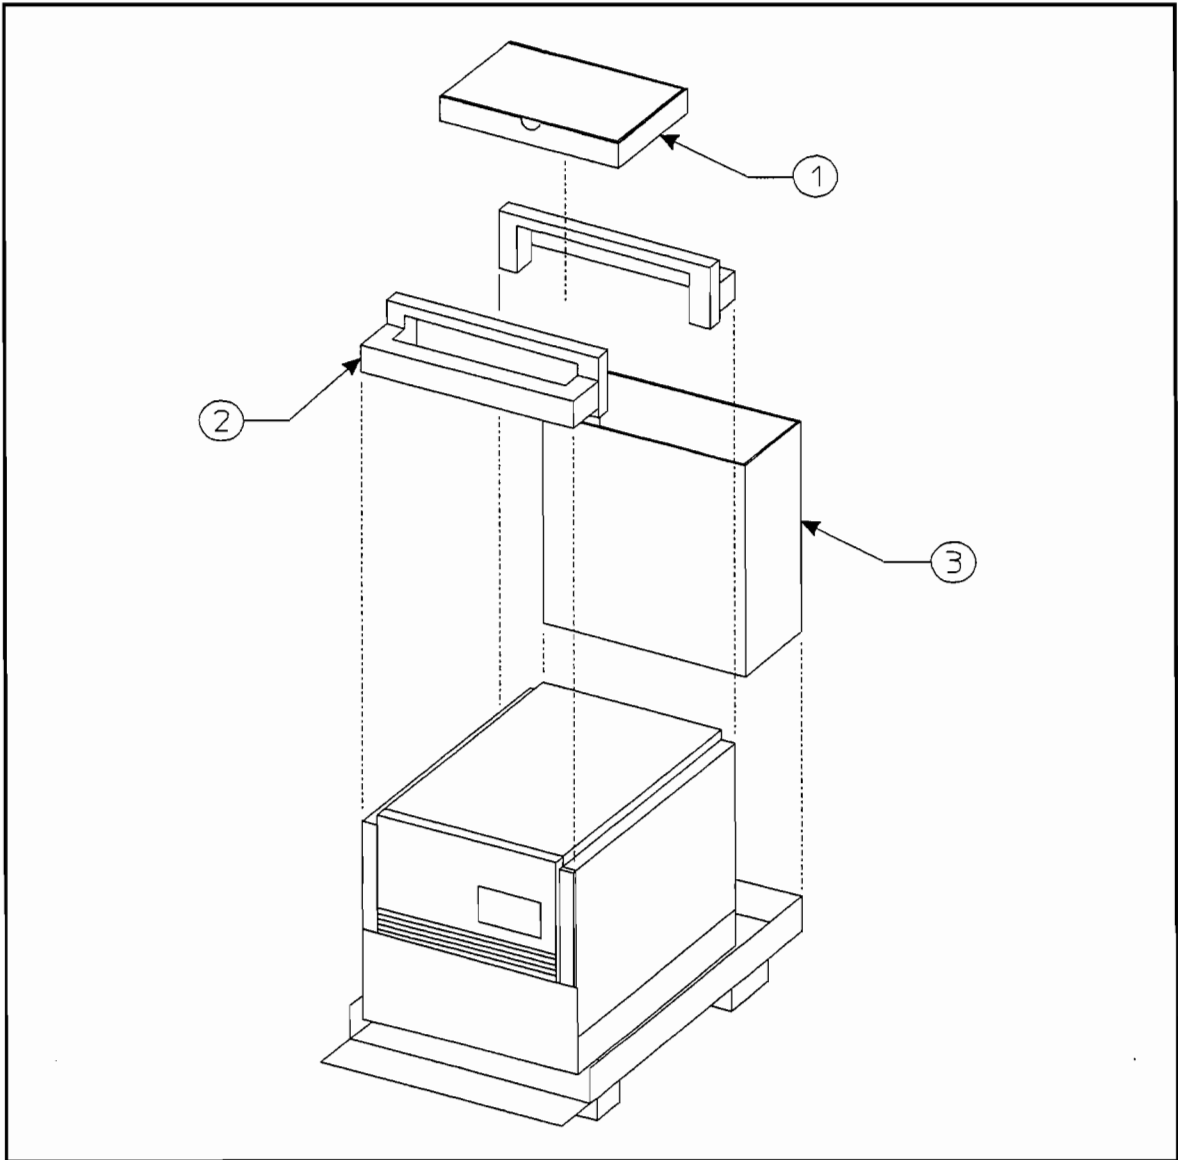

Figure 3-6. Unpacking the Accessories
5. Remove the small accessory box ①, shipping foam ②, and accessories from the large accessory box ③. Remove the large accessory box ③. See Figure 3-6.
6. Cut or tear the corners of the shipping box bottom that are adjacent to the front of the computer, as shown in Figure 3-6. Fold the flap, created by the cuts, down to form a small ramp.